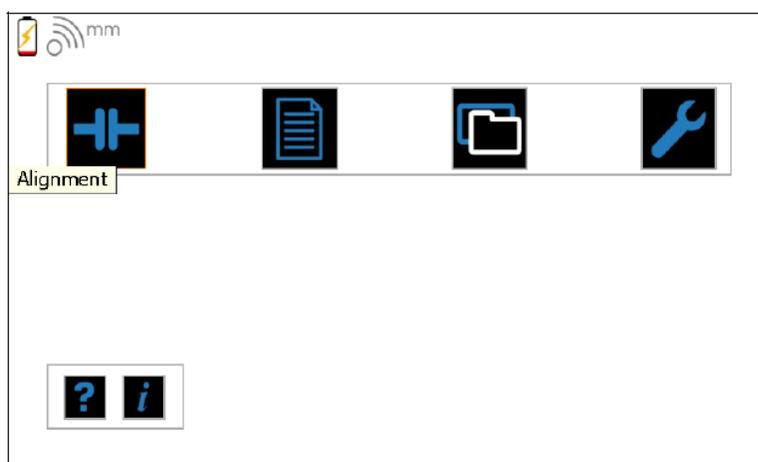

Figure 5. Start screen
- The new calibration file will be copied over onto the Display Unit during the reboot process, and will not be reported to the user. When the start screen of the TKSA 60/80 application is displayed [Figure 5], the installation process has completed successfully.